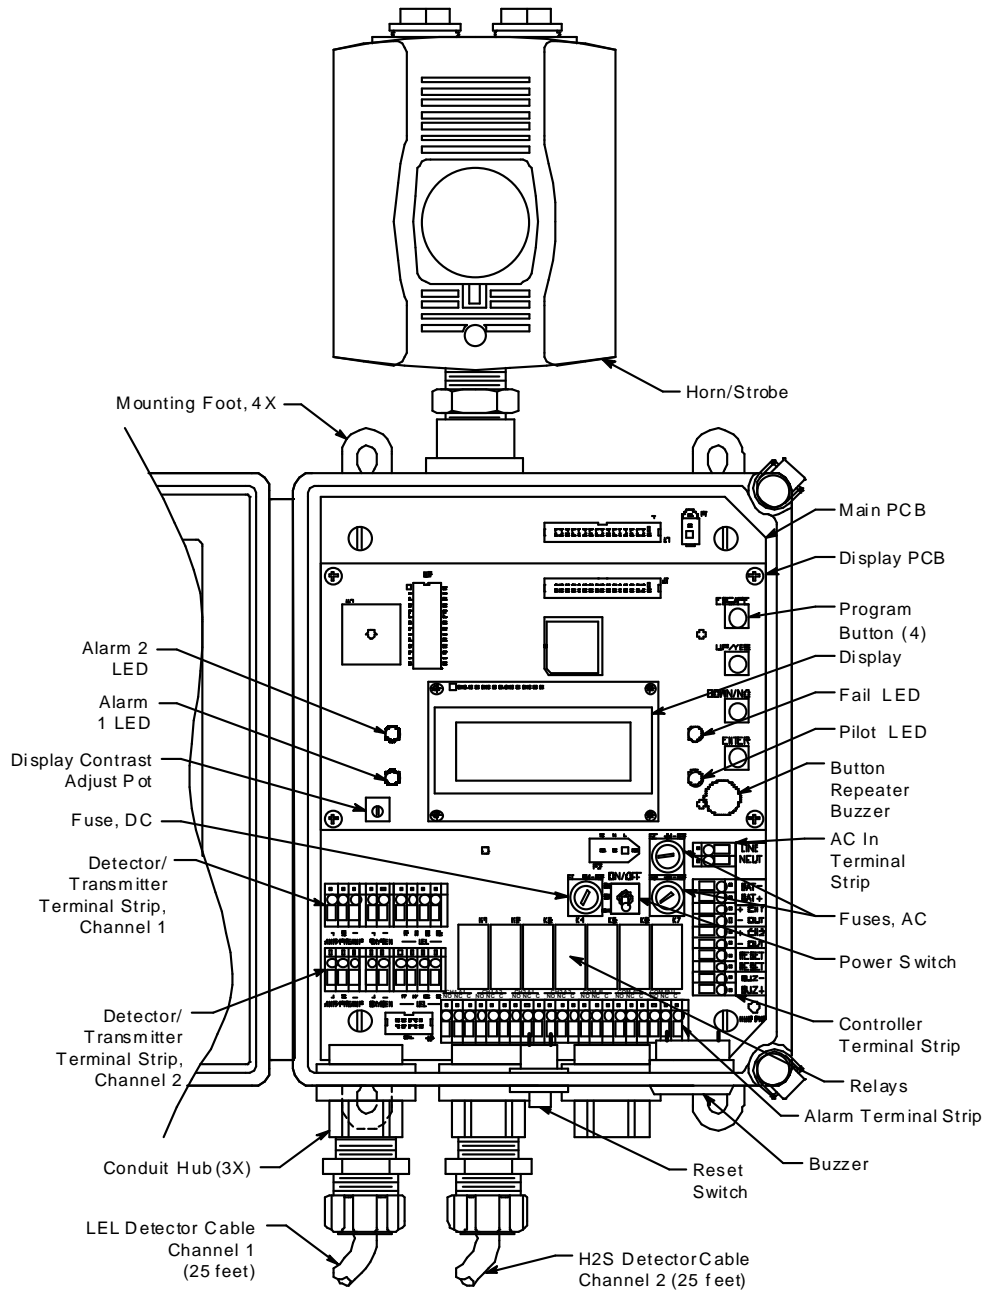

Figure 1. Beacon 200 Component Location
This section describes the internal components of the Beacon 200. See Figure 1 on page 4 for a view of the internal components.
- **Detector/Transmitter Terminal Strips.** Two detector/transmitter terminal strips are located near the bottom left corner of the main circuit board (see Figure 1). These two 9-point terminal strips facilitate wiring connections to the detectors. Only one detector head at a time may be wired per channel. The top terminal strip is for channel 1 and the bottom terminal strip is for channel 2. The LEL detector is factory wired to the top terminal strip and the H₂S detector is factory wired to the bottom terminal strip.
- **Alarm Terminal Strip.** The alarm terminal strip is located along the bottom edge of the main circuit board (see Figure 1). This 21-point terminal strips facilitates wiring connections to external alarm devices (horn, strobe, etc.). Terminals are provided for individual channels as well as common alarm relay contacts. The horn/strobe is factory wired to this terminal strip.
- **Controller Terminal Strip.** The 10-point controller terminal strip is near the lower right edge of the main circuit board (see Figure 1). The controller terminal strip facilitates various internal and external wiring connections. Table 3 lists the function of each terminal.
- **AC In Terminal Strip.** The AC In terminal strip is a 2-point terminal strip located above the controller terminal strip (see Figure 1). It facilitates wiring from the AC power source. Table 4 lists the function of each terminal.
- **Channel relays.** The four channel relays are above the alarm terminal strip (see Figure 1). These relays are dedicated to specific channels and alarm levels.
- **Common relays.** The three common relays, alarm 1, alarm 2, and fail, are to the left of the controller terminal strip (see Figure 1). These relays are common for both channels.
The power switch is located above the relays and to the left of the DC fuses (see Figure 1). The power switch turns the incoming AC power source on and off at the Beacon 200. When the switch is up, the power switch is on.